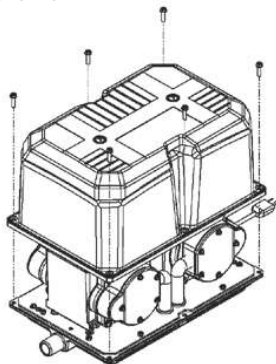

Figure 2
- A. Unscrew and remove the six housing screws around the aluminum upper housing, and take the upper housing off. (As shown in figure 2)